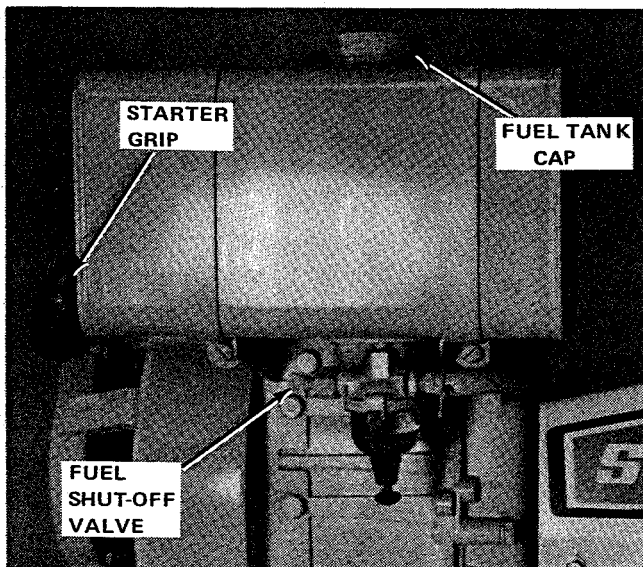

Figure 2. Fuel Tank and Fuel Valve
- a. Remove fuel cap (see figure 2 on next page).
2. Make sure the fuel shut-off valve is open (see figure 2).